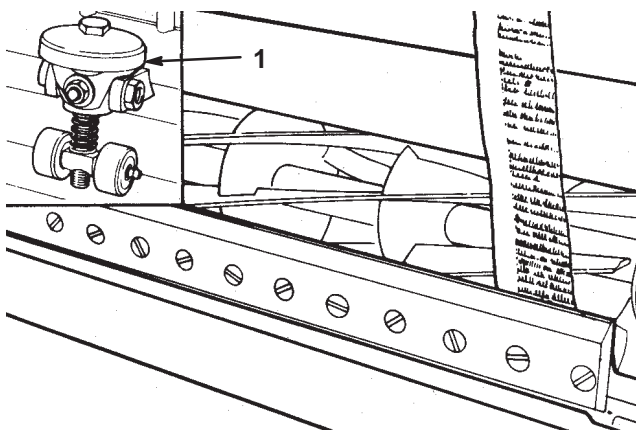

Figure 2
4. Check to make sure the bedknife and reel are parallel. On either end of the front side of the cutting unit insert a long strip of newspaper between the reel blade and the bedknife. Slowly rotate the reel and turn the bedknife adjusting knob (using a wrench) (Fig. 2) clockwise one click at a time, until the paper is pinched lightly, which results in a slight drag when the paper is pulled.